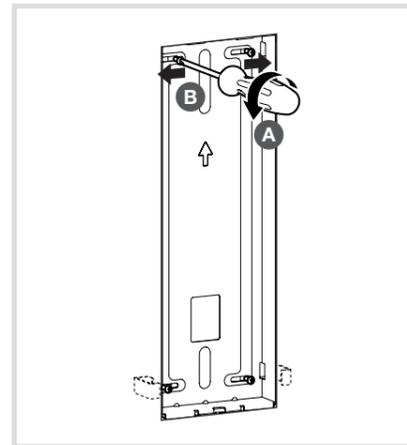

Fig. 20: Hollow-wall installation housing fastening
- Loosen the 4 screws for hollow-wall fastening using a screwdriver (A), push outwards (B) and screw tight (Figure 20).